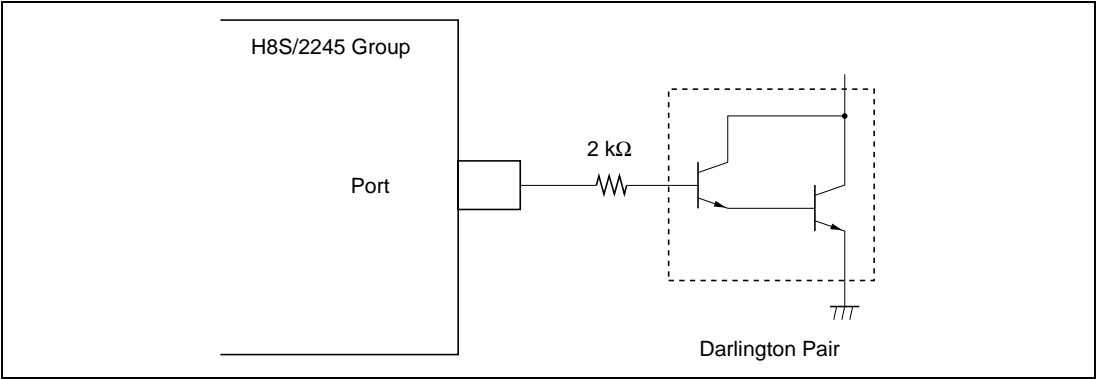

Figure 19.1 Darlington Pair Drive Circuit (Example)
2. When driving a darlington pair or LED, always insert a current-limiting resistor in the output line, as show in figures 19.1 and 19.2.